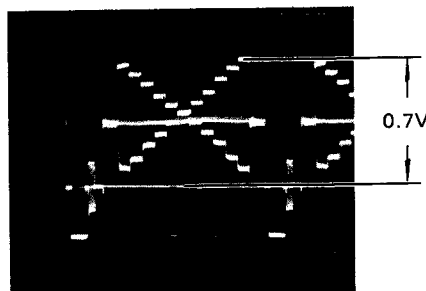

Fig. 5-8-3
- o Trigger oscilloscope at H.rate. (Use TP9 (BL), Deflection board.)
- o Adjust VR16 (IRIS SET) so that the video signal level is 0.7V. (Fig. 5-8-3)